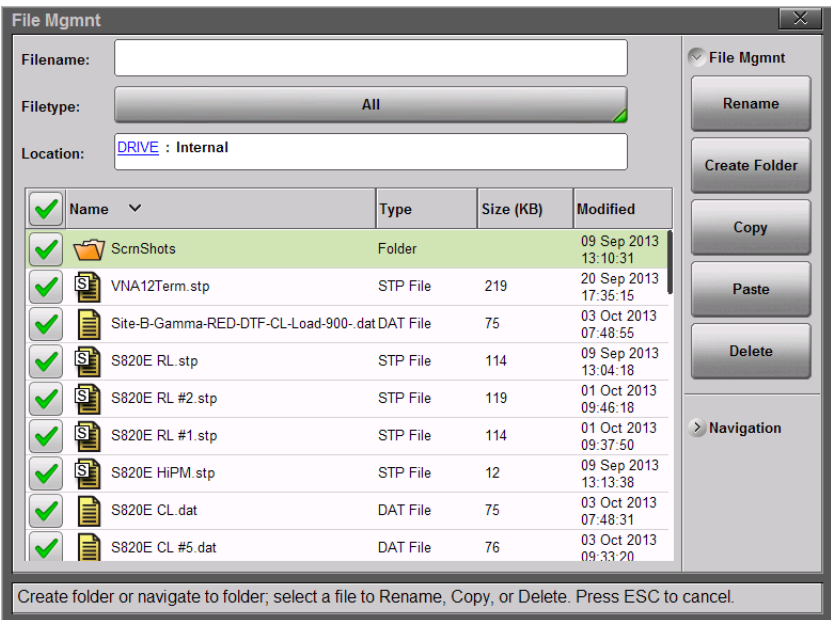

Figure 10-23. Selecting Multiple Items to Delete
2. Select the files and folders to delete. If desired, use the check box column header to select all of the files in the current location or folder (Figure 10-23). Use the Navigation submenu buttons as needed to move through a long list of files.